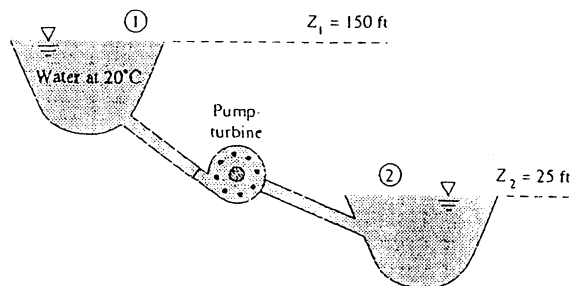

Fig. P3.135
3.135 The *pump-turbine* system in Fig. P3.135 draws water from the upper reservoir in the daytime to produce power for a city. At night, it pumps water from lower to upper reservoirs to restore the situation. For a design flow rate of 15,000 gal/min in either direction, the friction head loss is 17 ft. Estimate the power in kW (a) extracted by the turbine and (b) delivered by the pump.